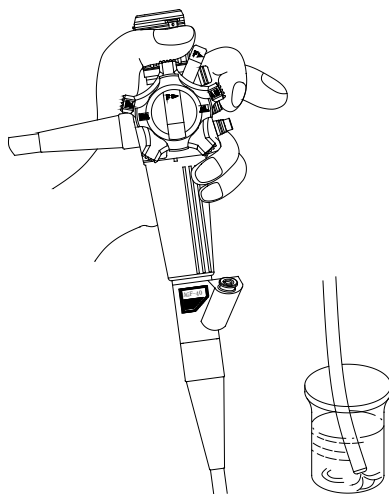

Figure 4.3
- 2) Dip the distal end in water, and press the suction valve to confirm that water is aspirated. Loosen your hands, and make sure that such suction stops (See Figure 4.3)